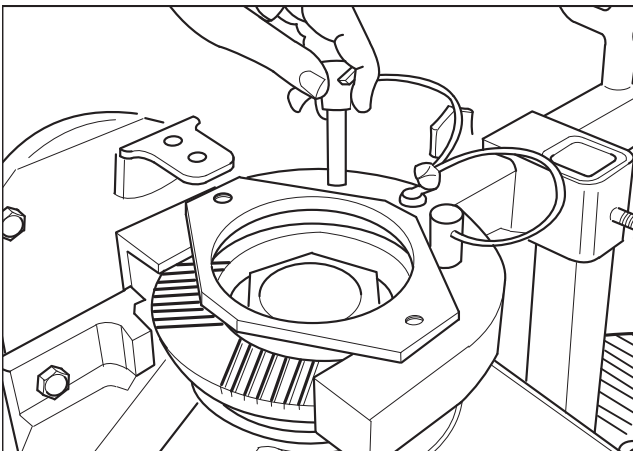

Fig. 2.15
15. Lock flange with service tool CT13. (Fig.2.15)